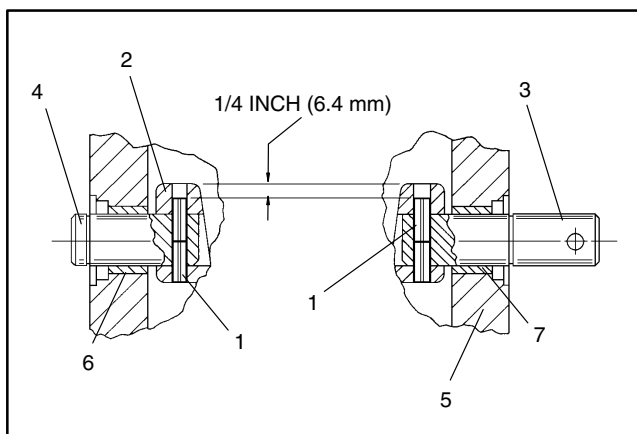

Figure 50
6. Insert **new** spring pins through the swashplate and into the control and trunnion shafts (Fig. 50).